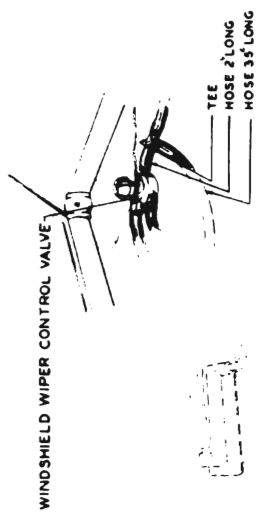

FIG 4
5. DISCONNECT SUCTION HOSE FROM WINDSHIELD WIPER CONTROL VALVE. INSTALL TEE CONNECTOR AND SHORT SECTION (2') OF HOSE. (FIG 4) CONNECT ALL SUCTION HOSE AS SHOWN IN SKETCH. START CAR MOTOR AND TEST OPERATION OF ANTENNA. PUSH VALVE KNOB UP TO RAISE ANTENNA. PULL KNOB DOWN TO LOWER.